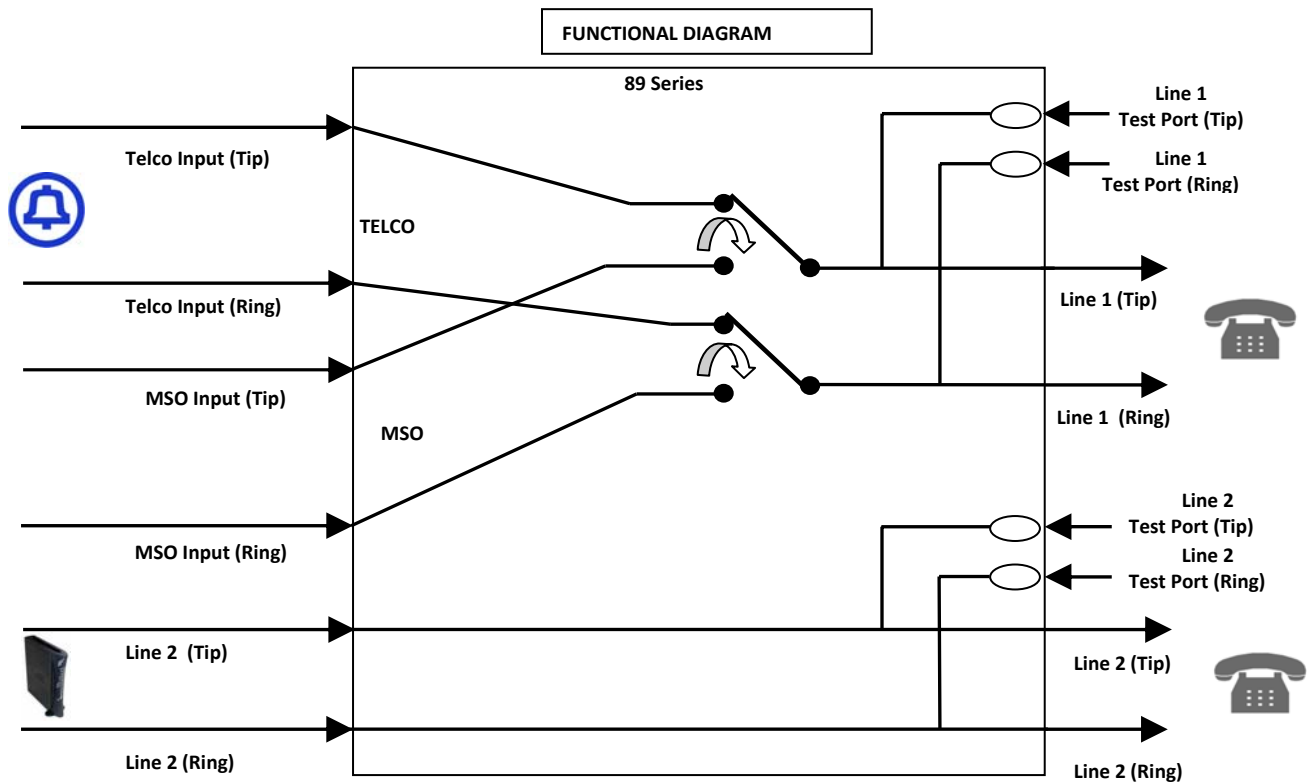

Figure 5
- Refer to Figure 5 for the 89 module functional schematic.